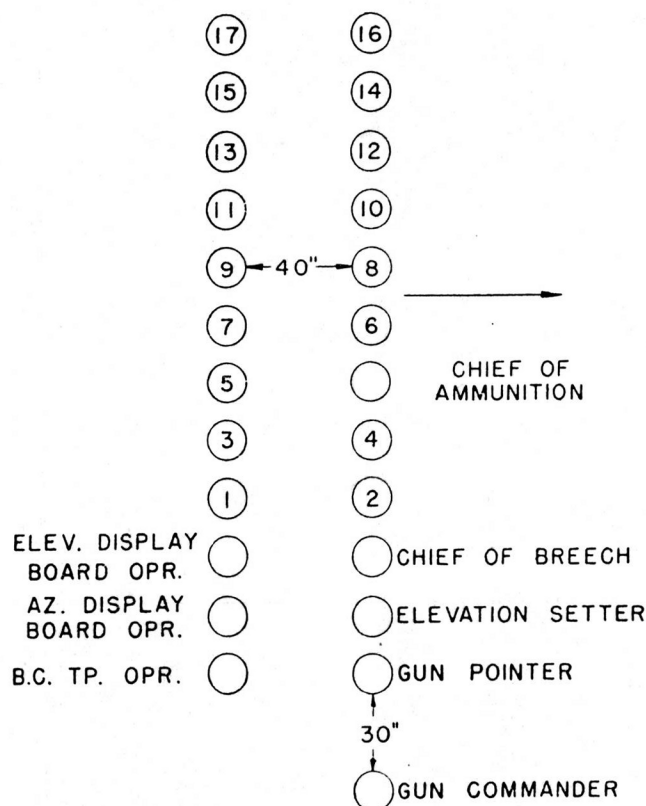

FIGURE 3.—Formation of gun section.
■ 6. FORMATION.—Each gun section assembles in two ranks as shown in figure 3. Unnumbered cannoneers form on the right of their respective squads. The chief of breech and the chief of ammunition form at the right of the numbered cannoneers in the gun squad and ammunition squad respectively. After forming the gun section, the gun commander takes post in the front rank 30 inches to the right of the gun pointer.
m. He can verify his gun section by commanding CALL OFF, at which command unnumbered and numbered members of the gun section call off their designations beginning with the gun pointer, and proceeding in the same manner as when in formation (see fig. 3).